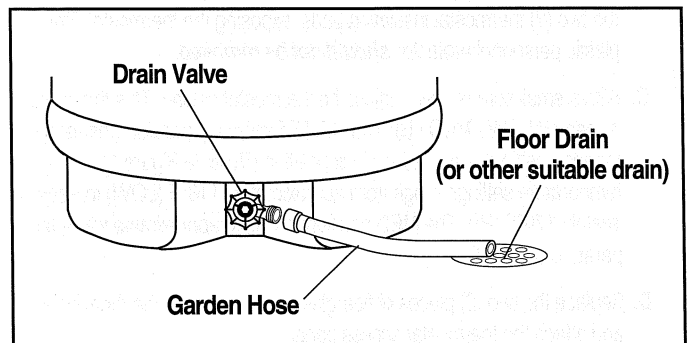

Figure 15 — Draining the Tank
In order to drain water heater, turn off the power supply, then turn off cold water supply. Next, it is necessary to open a hot water faucet or lift the handle on the relief valve to admit air to the tank, and KEEP OPEN. Attach a garden hose to the drain valve on the water heater, and open the valve. Direct the stream of water to a drain where it will do no damage. (See Figure 15).
- D. A water heater's tank can act as a settling basin for solids (sand, silt, dirt and mineral scale) suspended in the water. It is, therefore, not uncommon for these deposits to accumulate in the bottom of the tank. It is suggested that a few quarts of water be drained from the water heater's tank **ONCE EVERY MONTH** to clean the tank of these deposits. (See Figure 15)
- C. Fasten a length of garden hose to the drain valve. Place the other end of the hose at a floor drain, or other suitable location. (See Figure 15)
- C. Fasten a length of garden hose to the drain valve. Place the other end of the hose at a floor drain, or other suitable location. (See Fig. 15)